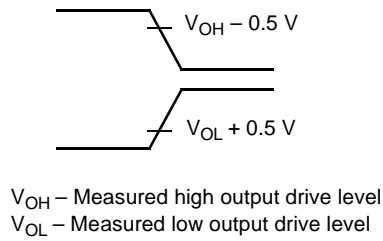

Figure 5. Test Point Levels for Driven-to-Three-State Time Measurements
- Refer to Figure 5 and Figure 4 for detailed measurement information.
19. The three-state condition is when the device is not actively driving data. Refer to Figure 2 and Figure 5 for detailed measurement information.